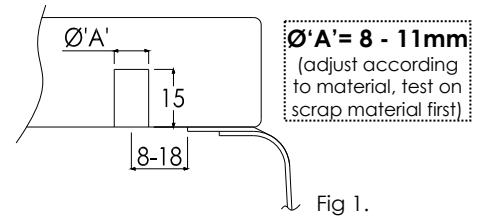

Fig 1.
- When creating the cut-out aperture you should also create a series of holes in the reverse face of the worktop to accept the undermount bracket inserts. The holes should be sized and positioned away from the edge of the sink as shown in Fig 1. All brackets supplied should be used and spaced equally around the perimeter. Where the sink has long and short sides more brackets should be used on the longer sides. Note: Suggested  $\varnothing'A' = 8\text{mm}$  (wood or similar) else  $\varnothing'A' = 10\text{mm}$